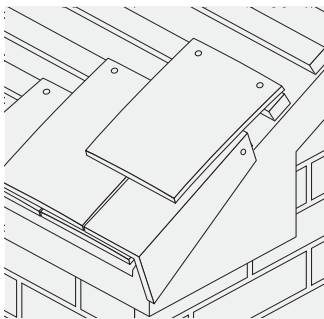

Fig. 52 – Standard tile used to break bond
- 5 Each alternate course should contain a normal plain tile to break bond, which should be twice nailed using standard 38mm x 2.65mm aluminium or stainless steel nails (Fig. 52).